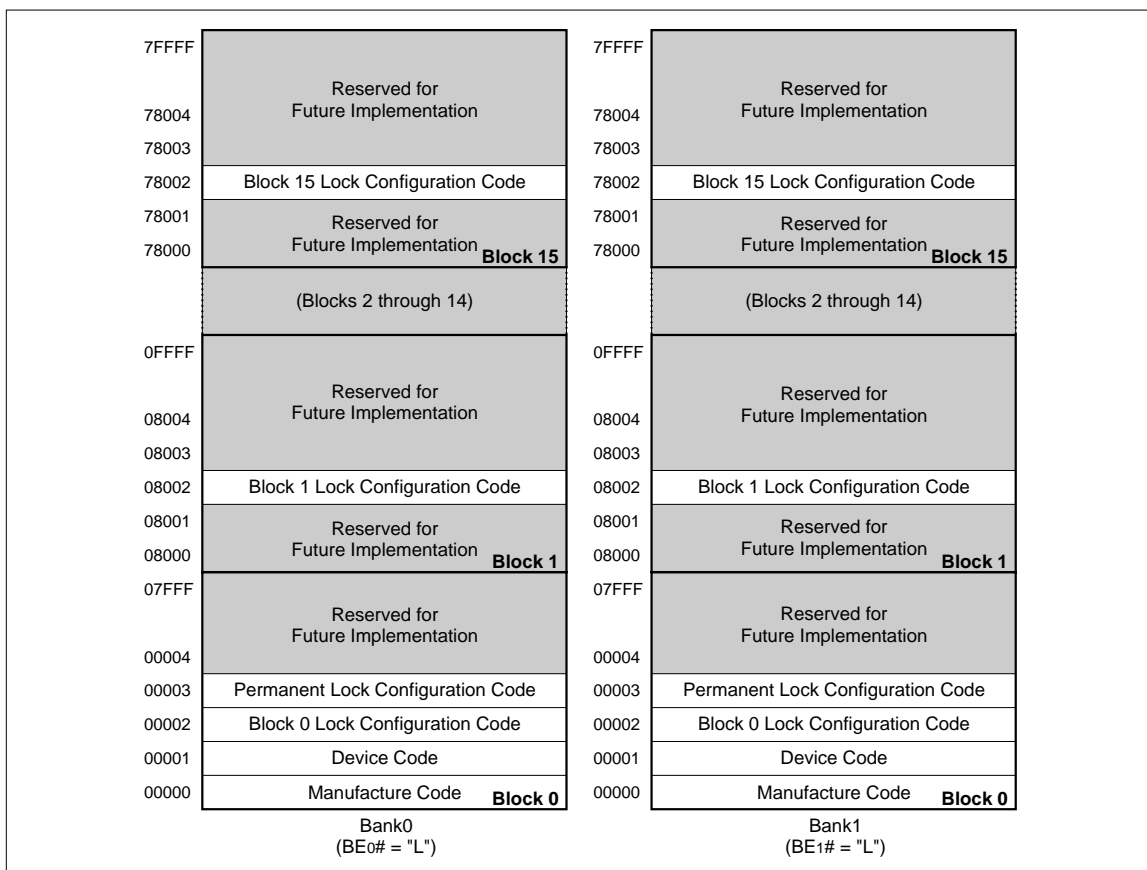

Fig. 2 Device Identifier Code Memory Map
The read identifier codes operation outputs the manufacture code, device code, block lock configuration codes for each block, and the permanent lock configuration code (see Fig. 2). Using the manufacture and device codes, the system CPU can automatically match the device with its proper algorithms. The block lock and permanent lock configuration codes identify locked and unlocked blocks and permanent bank lock-bit setting.
IA = Identifier code address : see **Fig. 2**.
The identifier code operation is initiated by writing the Read Identifier Codes command. Following the command write, read cycles from addresses shown in Fig. 2 retrieve the manufacture, device, block lock configuration and permanent lock configuration codes (see Table 4 for identifier code values). To terminate the operation, write another valid command. Like the Read Array command, the Read Identifier Codes command functions independently of the VPP voltage and RP# can be VIH or VHH. Following the Read Identifier Codes command, the following information can be read :
1. X selects the specific block lock configuration code to be read. See Fig. 2 for the device identifier code memory map.